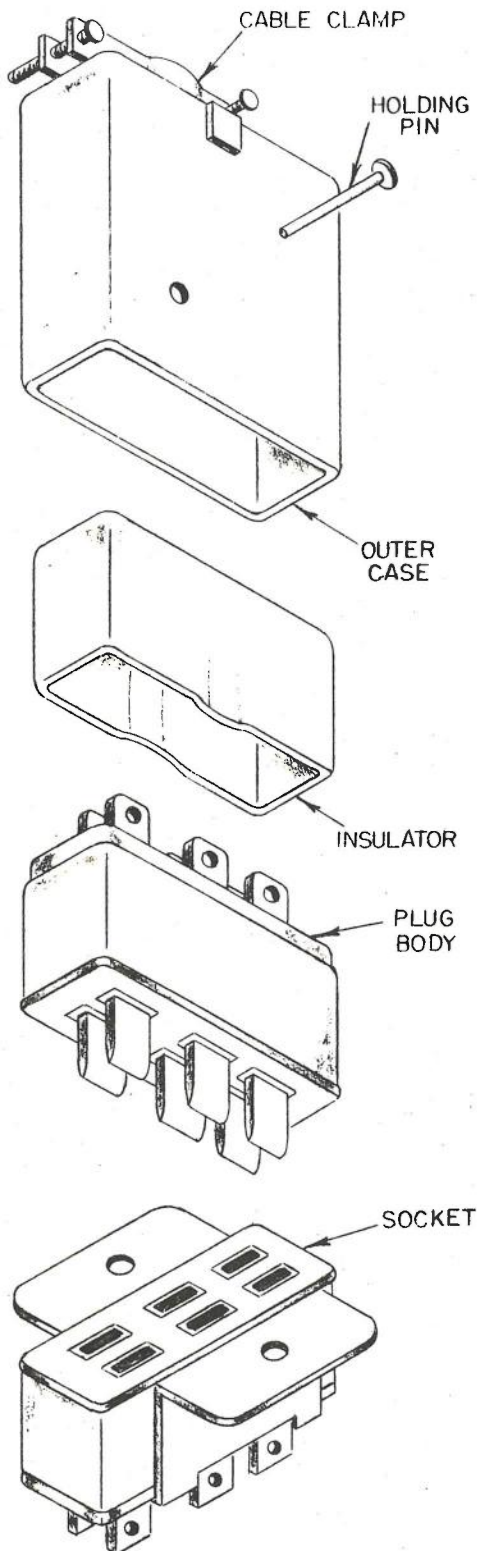

Figure 5-45. Jones Plug and Socket Assembly
d. JONES PLUGS AND SOCKETS. - Although Jones plugs and sockets and equivalent types are not "AN" type connectors, they are widely used for multi-circuit connections. Assembly is shown in Figure 5-45. They are used in applications of from 24 to 5000 volts and current ratings up to 25 amperes are available. The plug assembly is held in place by a single drive pin. Polarization is done with either a key or contact arrangement. Soldering to these types is similar to the procedure described for notched or perforated terminals.